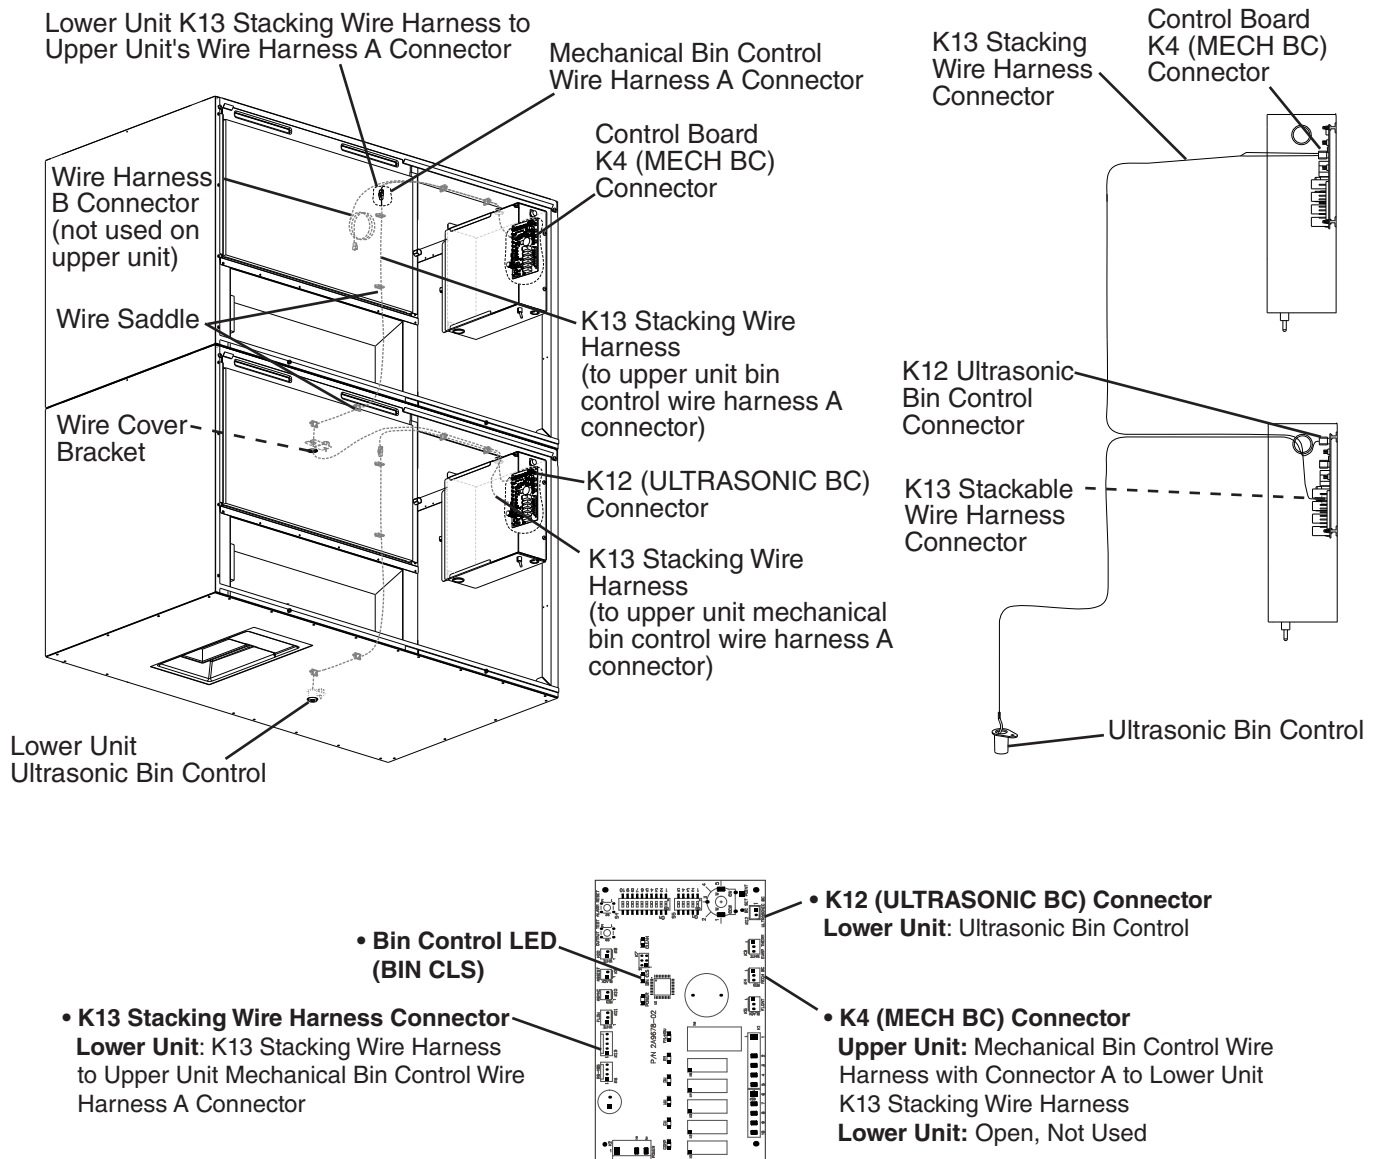

Fig. 5
See Fig. 5.
- 7) If not already removed, remove the upper and lower units' control box covers. Remove and discard the upper unit's mechanical bin control assembly, bracket, and bin control wire harness. See Fig. 5. **WARNING! Upper units with control board 2A9678-01 must have the 2A9678-01 control board replaced with control board 2A9678-02. Failure to replace control board 2A9678-01 with control board 2A9678-02 may result in ice overflow, freeze up, water leaks, or equipment movement.**
a) Lower Unit Ultrasonic Bin Control to Upper Unit Mechanical Bin Control. Fig. 5.